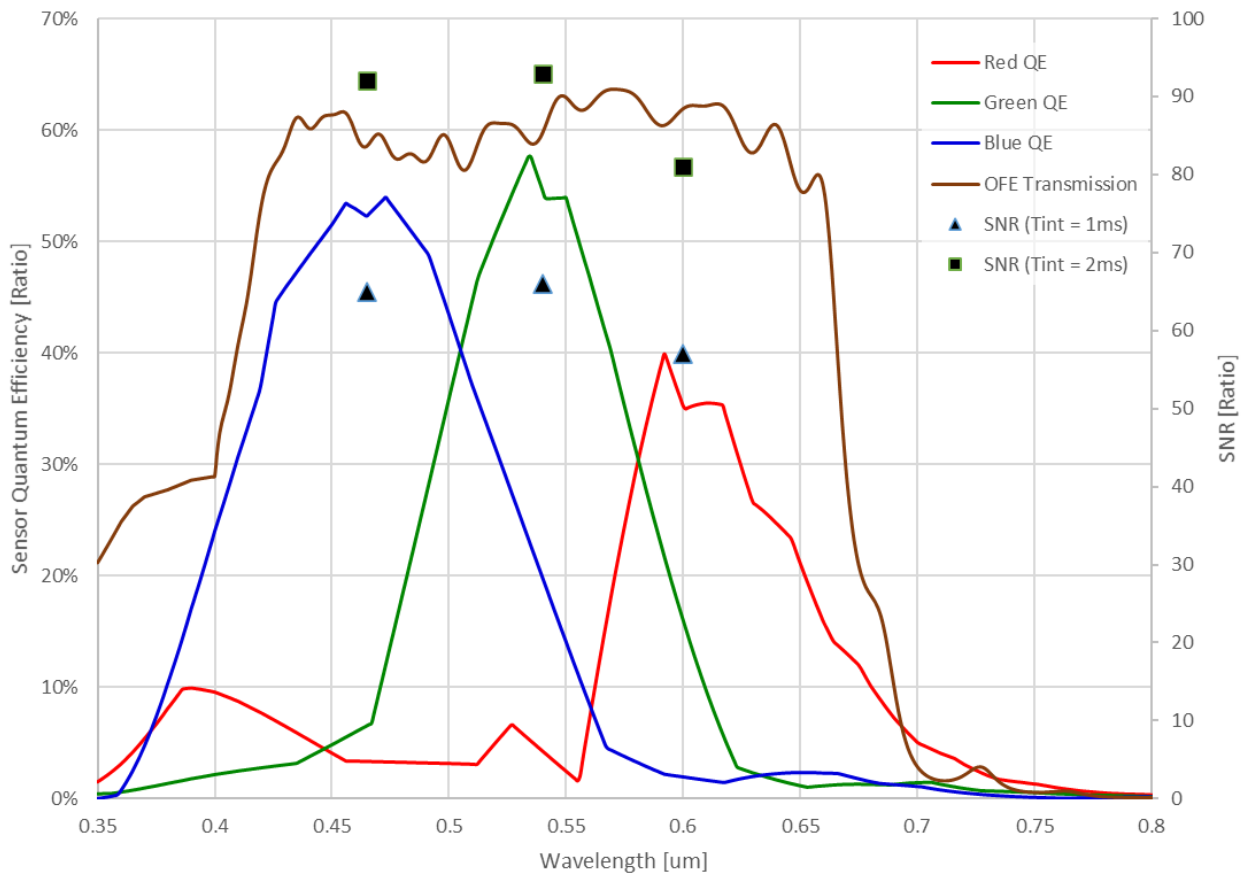

Figure 3-1: SNR and Spectral Efficiency
The signal-to-noise ratio for a selection of integration times is shown in Figure 3-1. A radiance level of $100 \text{ W}\cdot\text{m}^{-2}\cdot\text{sr}^{-1}\cdot\mu\text{m}^{-1}$ is assumed across the spectral range for all of the SNR values. The figure also shows the relative through-system efficiency of the three spectral bands inclusive of sensor quantum efficiency (QE), lens transmittance and NIR blocking filter transmittance.